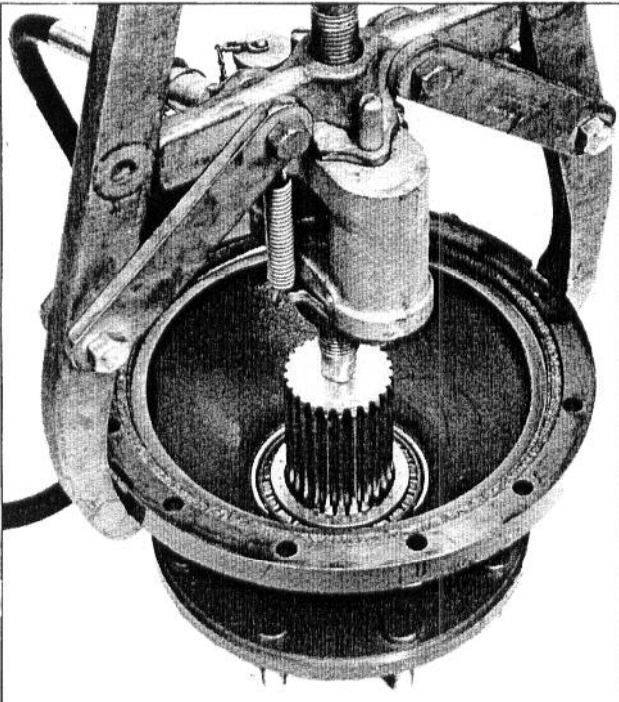

Fig. 33 - Removing Drive Cover and Axle Bearing Cone
7. Pull the wheel axle bearing and planetary assembly drive cover from the wheel axle as shown in Fig. 33.